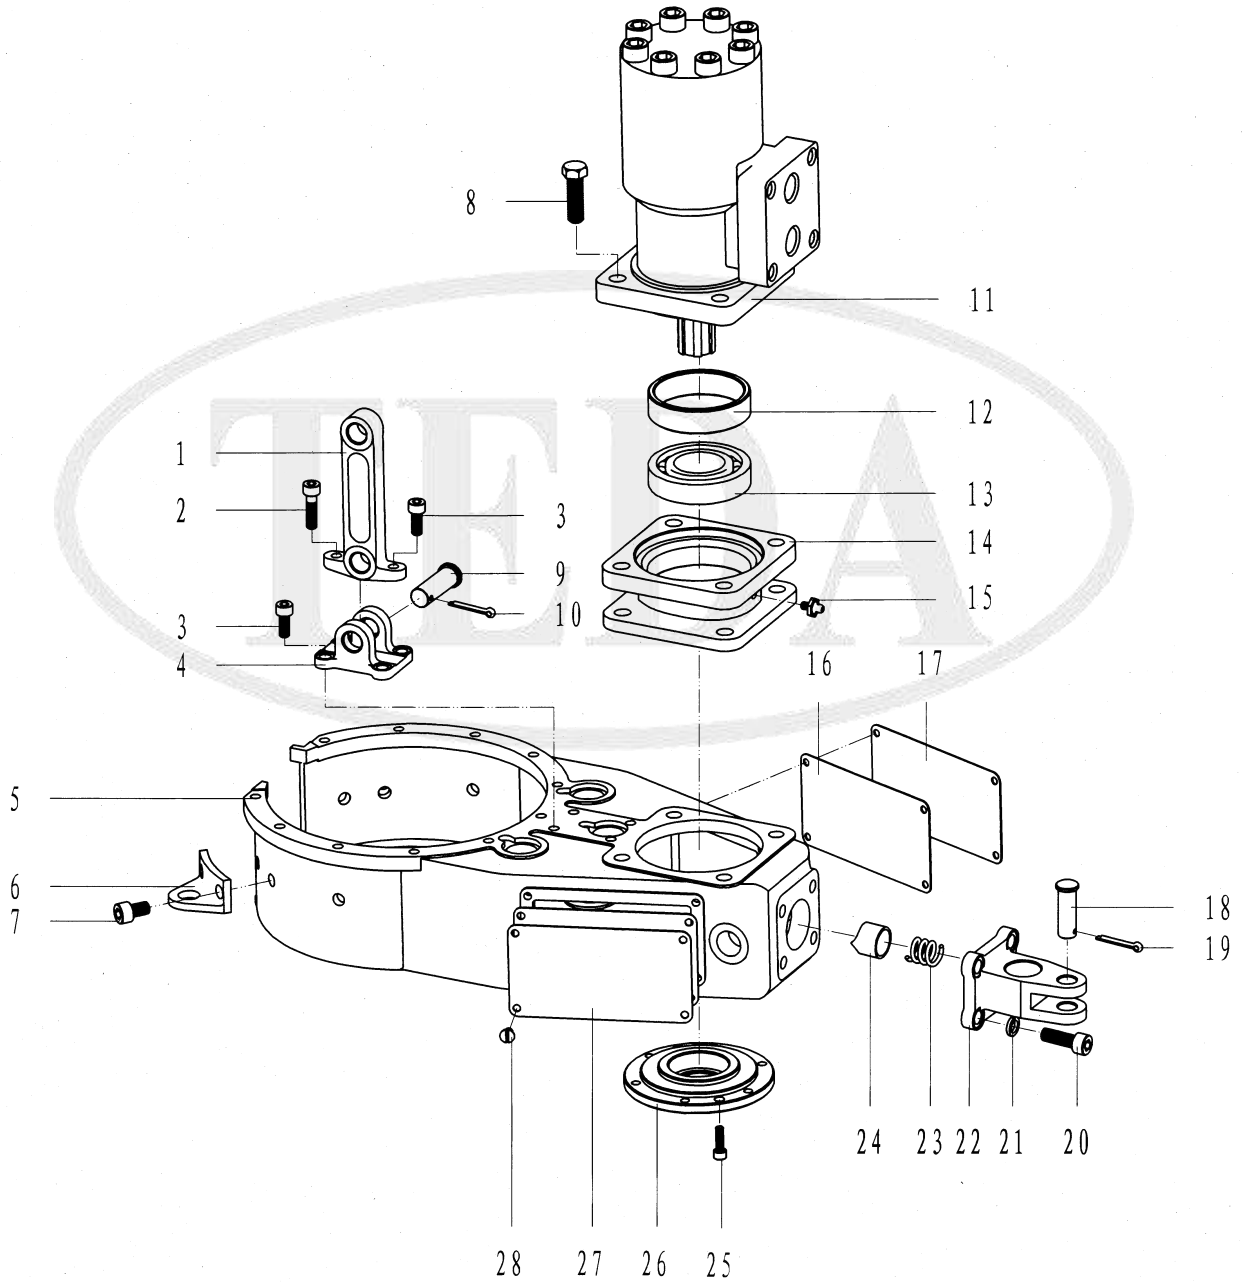

Fig.5 Shell and accessory
9.3 Shell accessory and parts list (Fig 5, Table 3)